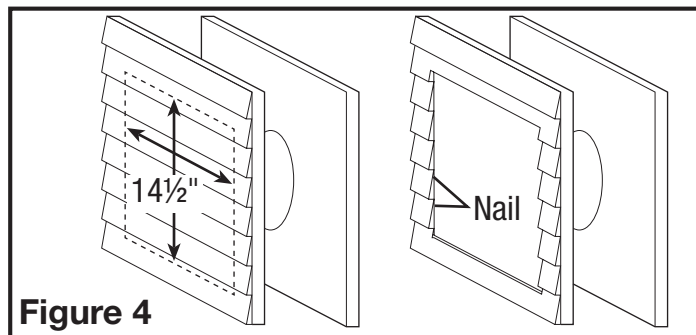

Figure 4
5. On the siding of the outside wall, layout a 14-1/2" x 14-1/2" square using the small hole drilled in Step 4 as the center point and cut out the square hole (**Figure 4**).
6. Once the siding is cut, nail down all the loose ends of the siding (**Figure 4**).